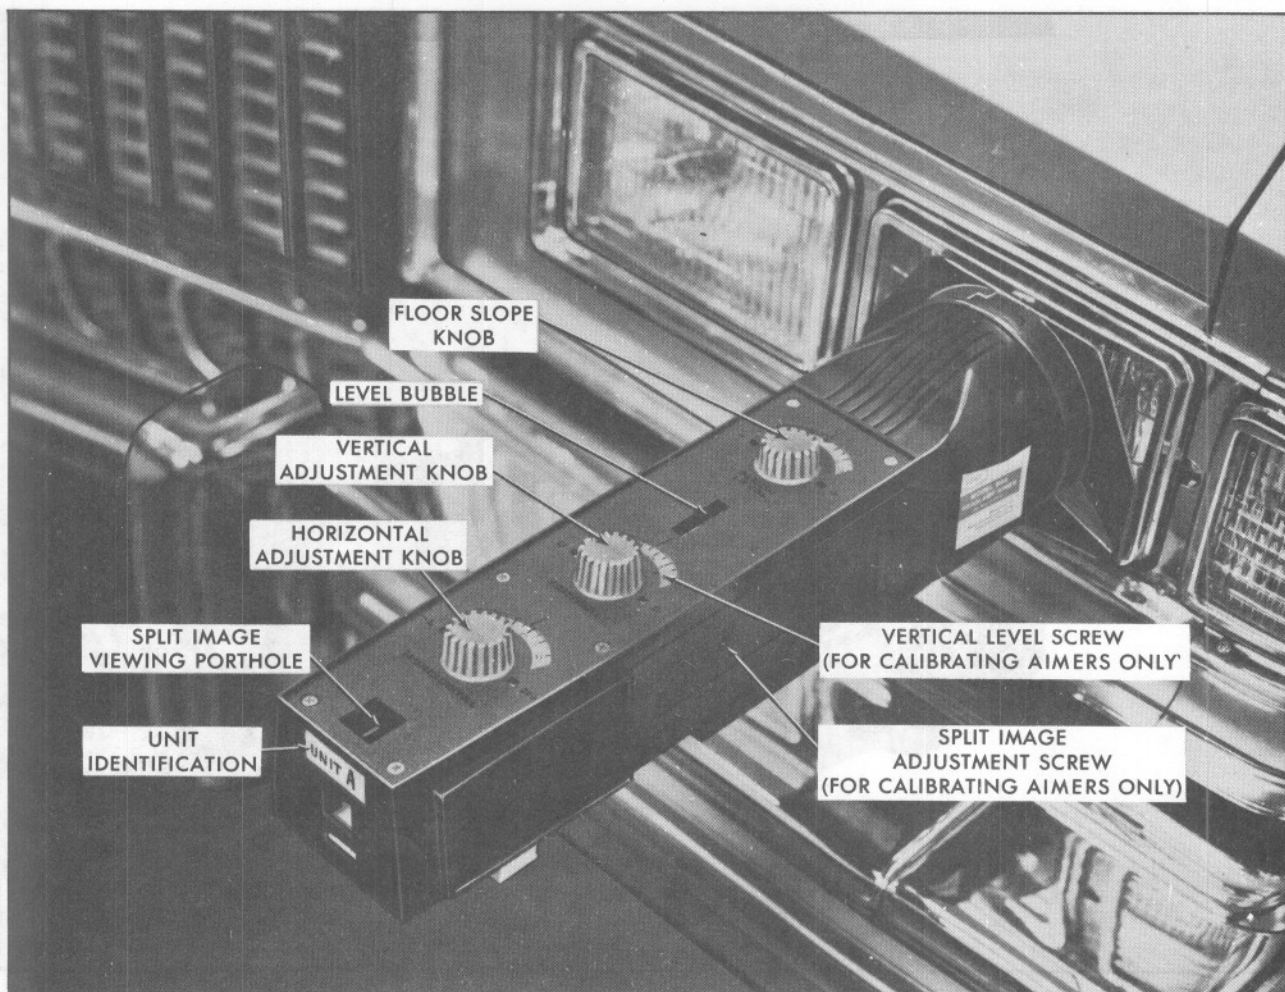

Fig. 12-5 Aimer Unit Parts Identification
8. Turn **HORIZONTAL** adjusting screw at side of headlamp until split image of target line appears as one line, Fig. 12-5.
4. Set the floor slope dial on each aimer to zero, Fig. 12-5.
vials are centered. If aimer vertical dial pointers are between 1/2 "Up" and 1/2 "Down" units are within VERTICAL calibration limits, Fig. 12-5.
8. If aimer units are not within specifications adjust VERTICAL aim calibration by inserting a 3/64 inch allen wrench into the adjusting hole in the vertical dial, Fig. 12-5. Turn wrench until the level vial is centered. Repeat on second aimer.
Adjust HORIZONTAL aim calibration by inserting a screwdriver into split image adjusting screw on right side of aimer, Fig. 12-5. Turn screw until split image aligns. Repeat on second aimer.